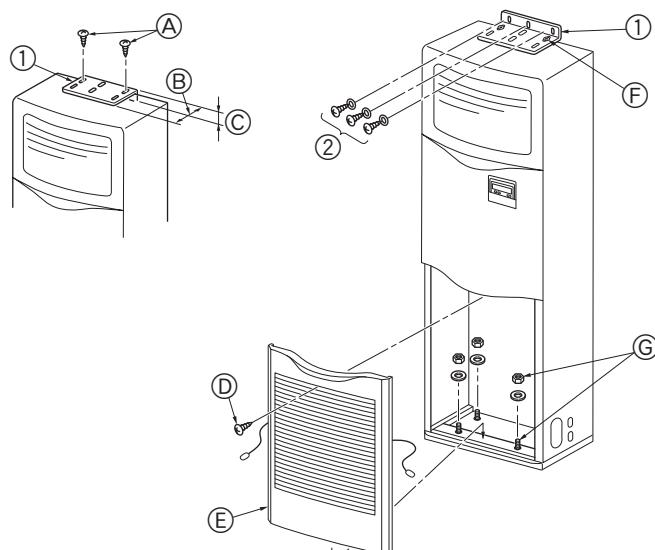

Fig. 3-2
①	Tip-over prevention bracket	1	The top surface of the unit.
②	Tapping screws (with washer)	3
③	Gas pipe insulation (large)	1
④	Liquid pipe insulation (small)	1
⑤	Band	5	Inside the air intake grill.
⑥	Drain socket	1
⑦	Bushing (for the wire hole)	2
3.2. Tip-over prevention bracket (Fig. 3-2)